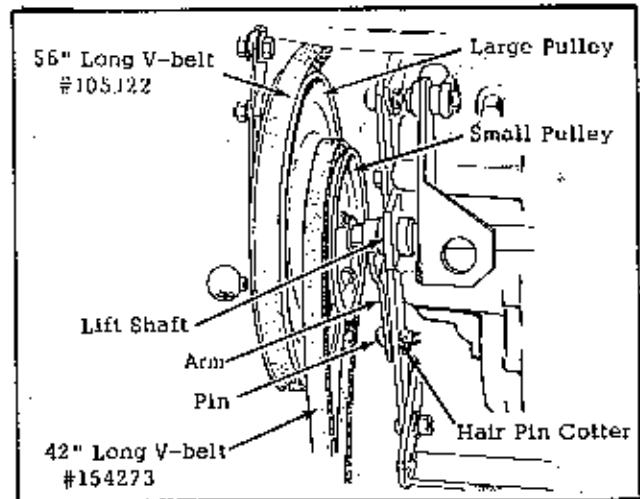
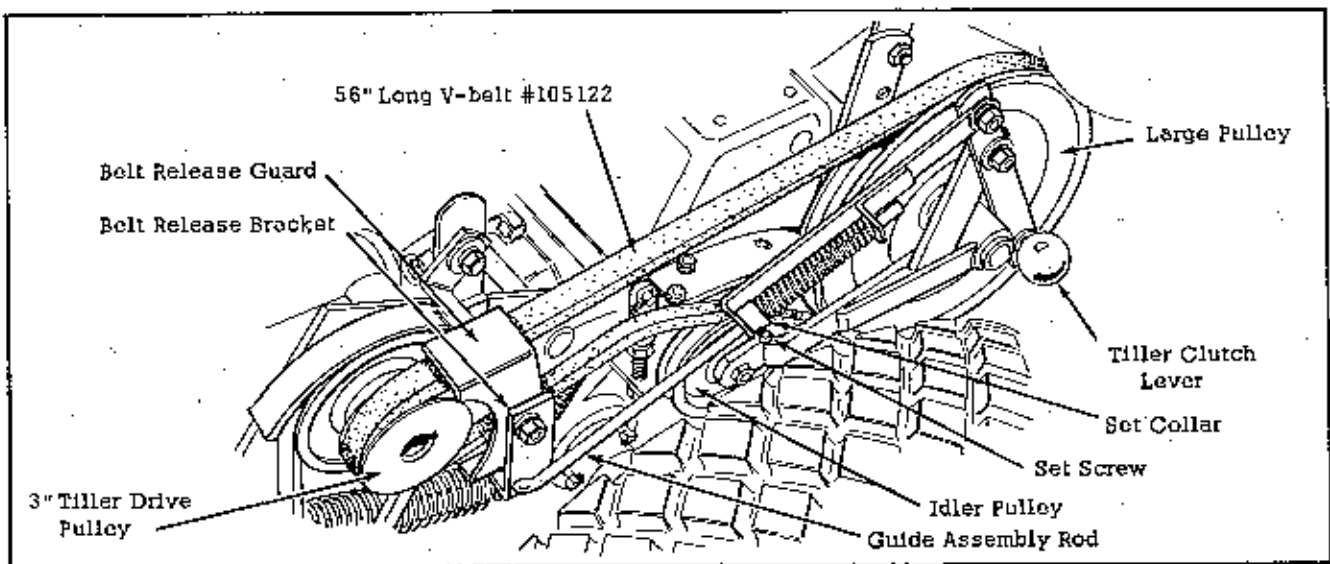

Fig. 7
Fig. 6
5. Place the 42" long V-belt #154273 in position on the smaller pulley of the tiller drive assembly and mount the tiller drive assembly onto the lift shaft as shown in Figure 6. As is shown in Figure 7, the arm of pulley sleeve assembly is held in place against the left side bracket of the tractor tow assembly by means of a hair pin cotter end pin.
Place the free end of the 56" long V-belt #105122 in position on the large pulley of the tiller drive assembly as shown in Figure 6.
4. Pull up on the tiller clutch lever handle to engage the tiller, and adjust the belt release guard so that clearance is equal on both sides of the belt. See Figure 6.
1. Adjustment of belt tension, for the V-belt running from the 3" pulley on the bevel gear shaft to the large pulley on the tiller drive assembly, is regulated by the set collar on the guide rod assembly. See Fig. 6. The tension should be correct when there is about 3/4" clearance between the collar and the bracket of the guide rod assembly when the tiller clutch lever is engaged.